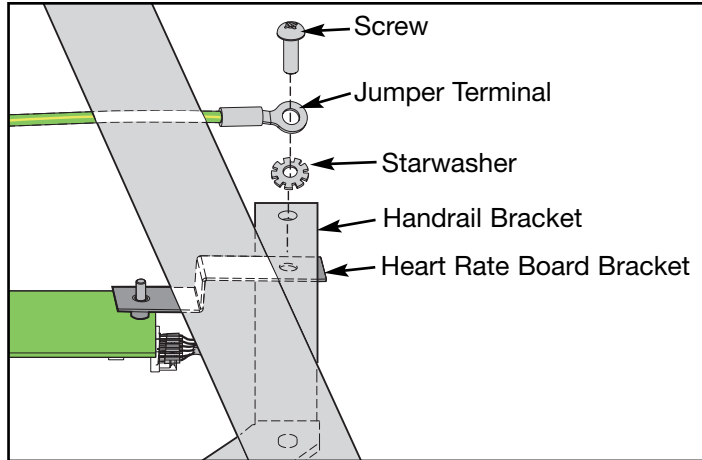

Figure 20
- Disconnect these cables from the display board: the display cable (2 connectors); the two upper switch membranes; the lower switch membrane; the contact heart rate cable and the upper to lower board jumper. See Figure 20.
- Using a Phillips head screwdriver, remove the nine black screws that hold the console front to the handrail. **NOTE:** Do not loose the starwasher that is under the CSAFE jumper terminal. See Figure 20.
- A. Place the starwasher next to the handrail bracket metal and hold the jumper terminal on top. See Figure 20.
- B. Place one of the nine Phillips head screws removed in step 4B through the terminal, starwasher, handrail bracket and heart rate bracket and secure it tightly. See Figure 20.